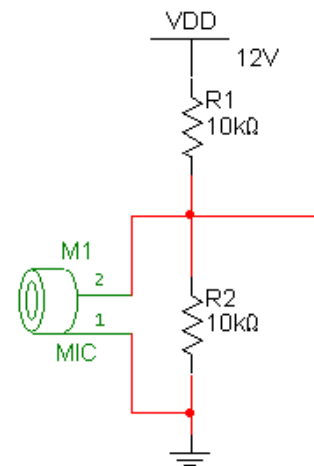

Figure 1-6 – Mic bias network.
- Now let's add the microphone into the circuit. In our circuit we're biasing the mic through a resistor divider as shown in Figure 1-6. This is not the most common approach: usually R2 would be eliminated and R1 would be chosen to set the bias voltage in a safe region for the device based on its specified current. But in our case we wanted ensure that the bias voltage is always well below 10V no matter what kind of mic ends up in your parts kit! Since the FET buffer current draw is somewhat unpredictable between various manufacturers, it proved safer to use a divider as shown. The actual bias voltage will be somewhere in the range of 4-6V depending on how much current the mic will draw.